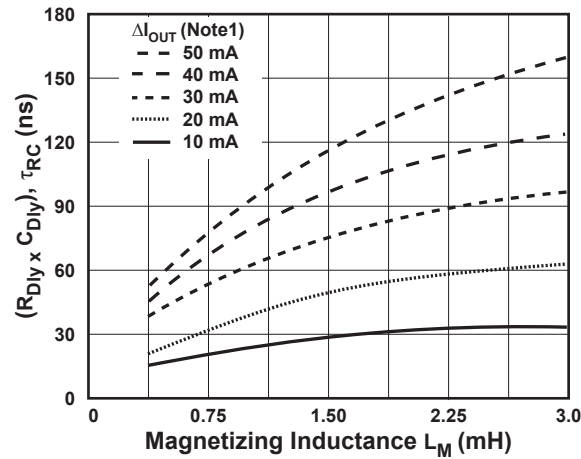

Figure 12.7 : T_{ON} Compensation Chart $R_{DS(ON)} = 55\text{-}250\Omega$
- Find the curve that best matches this difference from Figure 12.7.